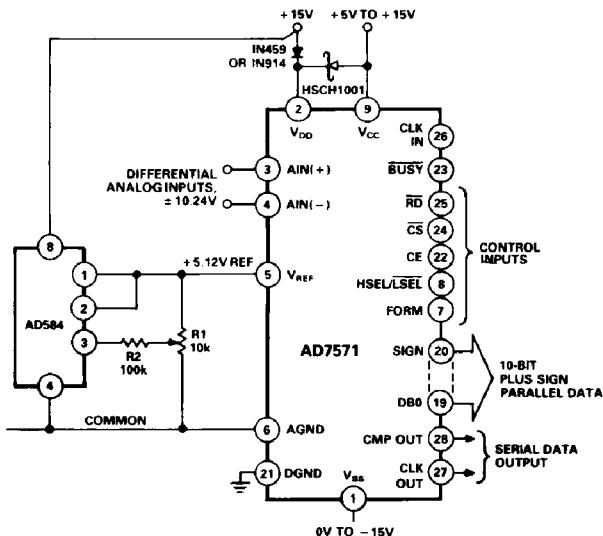

Figure 16. AD7571 Operational Diagram (see Table I for Pin Function Description)
6. SUPPLY SEQUENCING: Do not allow V_{CC} to exceed V_{DD} . In cases where V_{CC} could exceed V_{DD} , the diode protection scheme shown in Figure 16 is recommended.